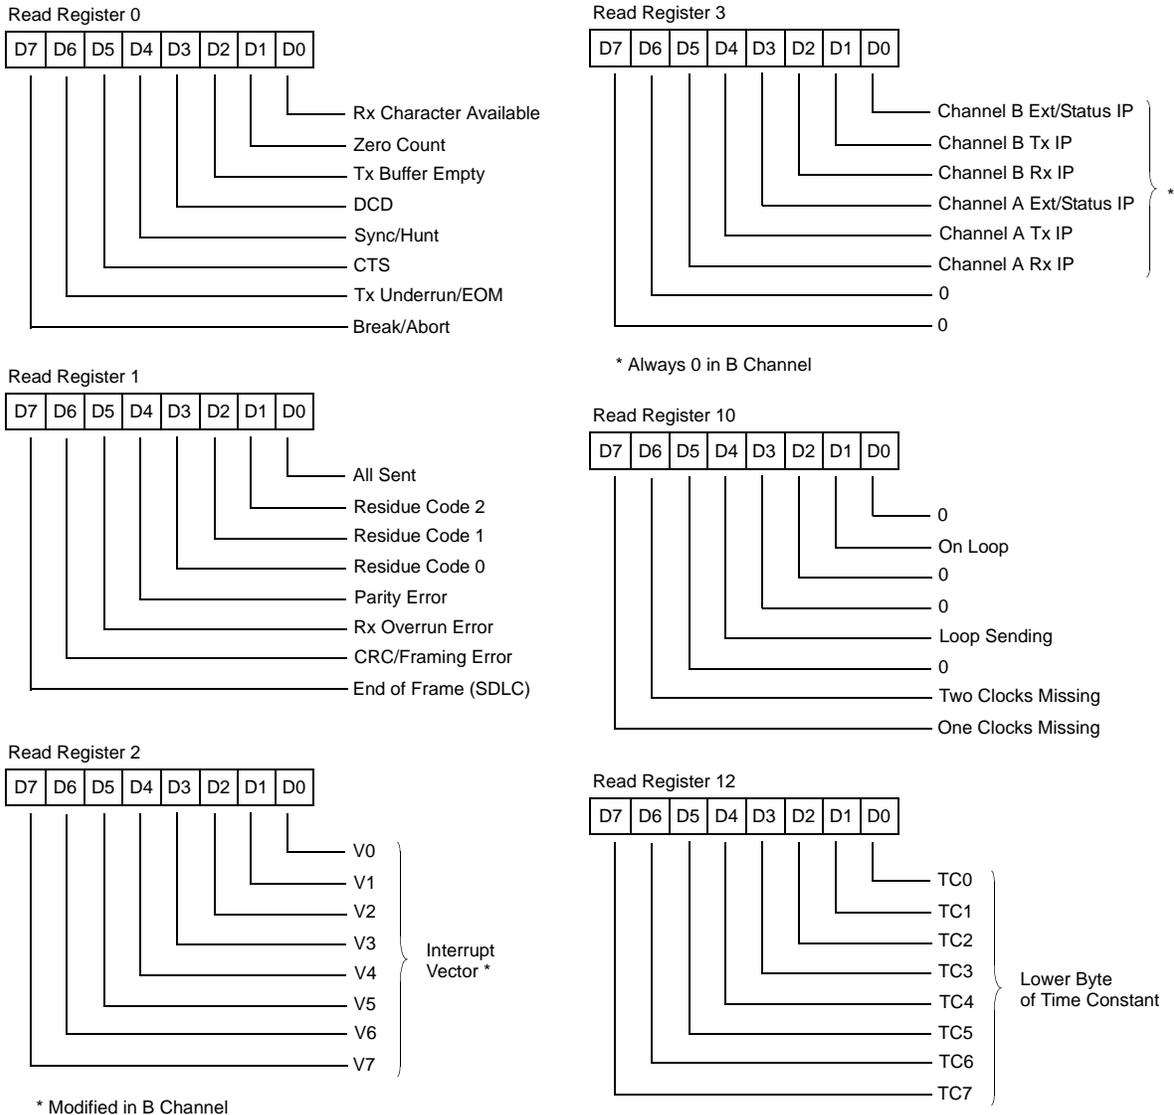

Figure 19. Read Register Bit Functions
The SCC contains ten Read registers (eleven, counting the receive buffer (RR8) in each channel). Four of these can be read to obtain status information (RR0, RR1, RR10, and RR15). Two registers (RR12 and RR13) are read to learn the Baud Rate Generator time constant. RR2 contains either the unmodified interrupt vector (Channel A) or the vector modified by status information (Channel B). RR3 contains the Interrupt Pending (IP) bits (Channel A only; see Figure 19). RR6 and RR7 contain the information in the SDLC Frame Status FIFO, but is only read when WR15 D2 is set (see Figures 19 and 20 ).